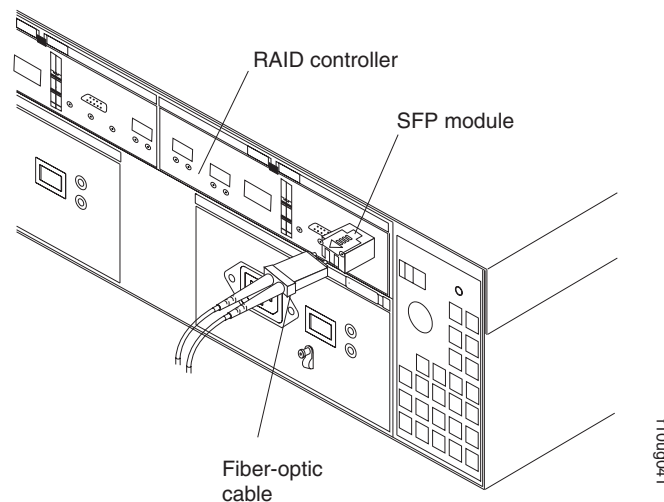

Figure 71. Location of SFPs and fiber-optic cables
4. From the RAID controller that has failed, remove the fibre-channel cables from the SFPs. The location of these components is shown in Figure 71.